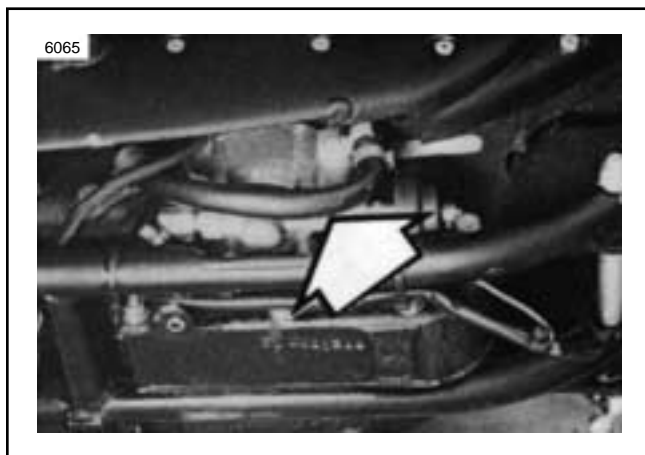

Figure 1. XL Oil Pump Return Hose
1. See Figure 1. Remove oil return hose at oil pump. Cut off one inch from the loose end of the hose so there is a new section to connect.